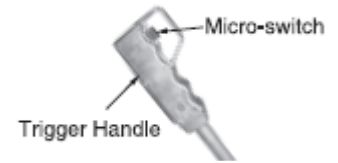

Fig. 11
In order to operate the machine, the main switch has to be in the 1- or 2-position, depending on the preferred saw speed. Then operate the saw by pressing the trigger (micro-switch)(fig.11).
6. Grab the trigger handle (fig. 11).